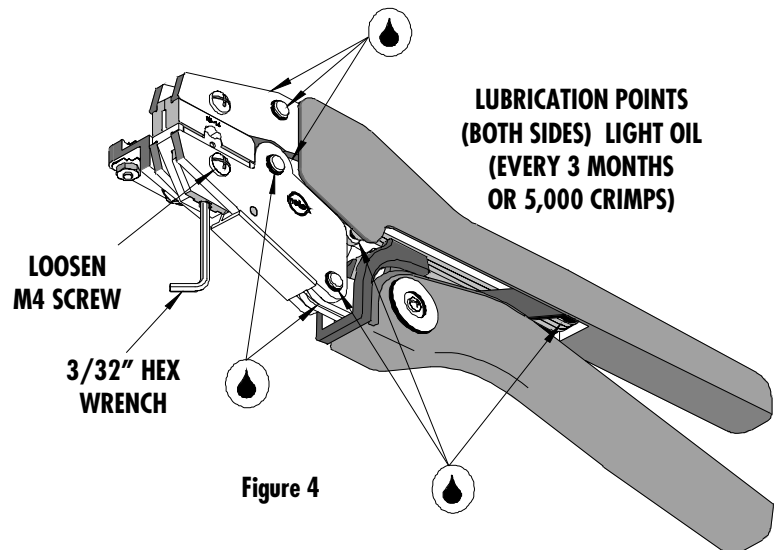

Figure 4
6. If the insulation part of the crimp needs to be adjusted, first loosen the M4 screw on the bottom tool jaw, then insert a 3/32 hex wrench (supplied) into the bottom of the lower die (See Figure 4). A clockwise (CW) rotation decreases insulation crimp while a counter-clockwise (CCW) rotation increases insulation crimp. After adjusting retighten the M4 screw.
3. Make certain all pins; pivot points and bearing surfaces are protected with a thin coat of high quality machine oil. Do not oil excessively. The 64001-1700 (RHT-5757) was engineered for durability, but like any fine piece of equipment it needs cleaning and lubrication for a maximum service life of trouble-free crimping. A light oil, such as 30 weight automotive oil used at the oil points shown in Figure 4, every 5,000 crimps or 3 months will significantly enhance the tool life and ensure a stable calibration.